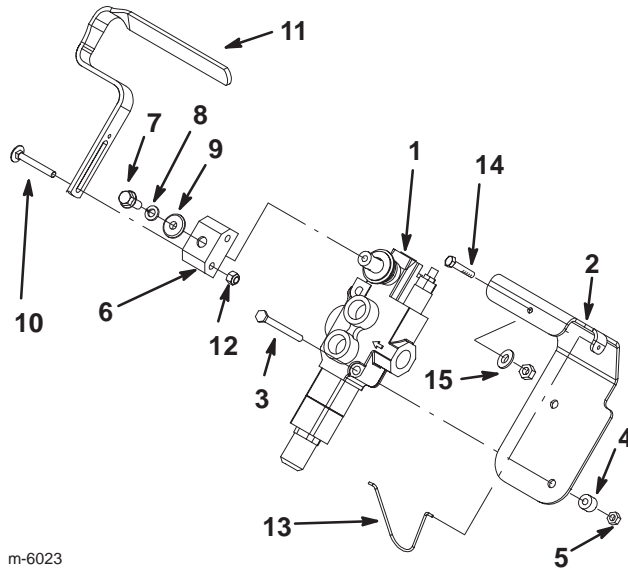

Figure 20
4. Apply grease to the inside of the hole in the lever mount block (Fig. 20).
5. Seat and install the lever mount block on the valve and secure it using a thick washer, lock washer (5/16 in.), and flange-head bolt (8 x 20 mm) (Fig. 20).
6. Install the auxiliary hydraulic lever gate under the valve body and secure it to the valve and frame using 2 new spacers and the bolts and locknuts removed previously (Fig. 20).
7. Thread the new auxiliary hydraulics lever through the opening in the gate and secure it loosely to the side of the mount block with 2 carriage bolts (1/4 x 2 in.) and locknuts (1/4 in.) (Fig. 20). Before tightening the nuts completely, adjust the height of the lever to the level of the handle of the traction unit with the lever all the way forward in the furthest right hand slot of the gate.
9. Install the lever spring between the lever and the gate (Fig. 20).
10. Install the self-tapping screw (1/4 x 1-3/8) into the hole on top of the gate (Fig. 20).
12. Secure the screw with a lock washer (1/4 in.) and nut (1/4 in.) (Fig. 20).